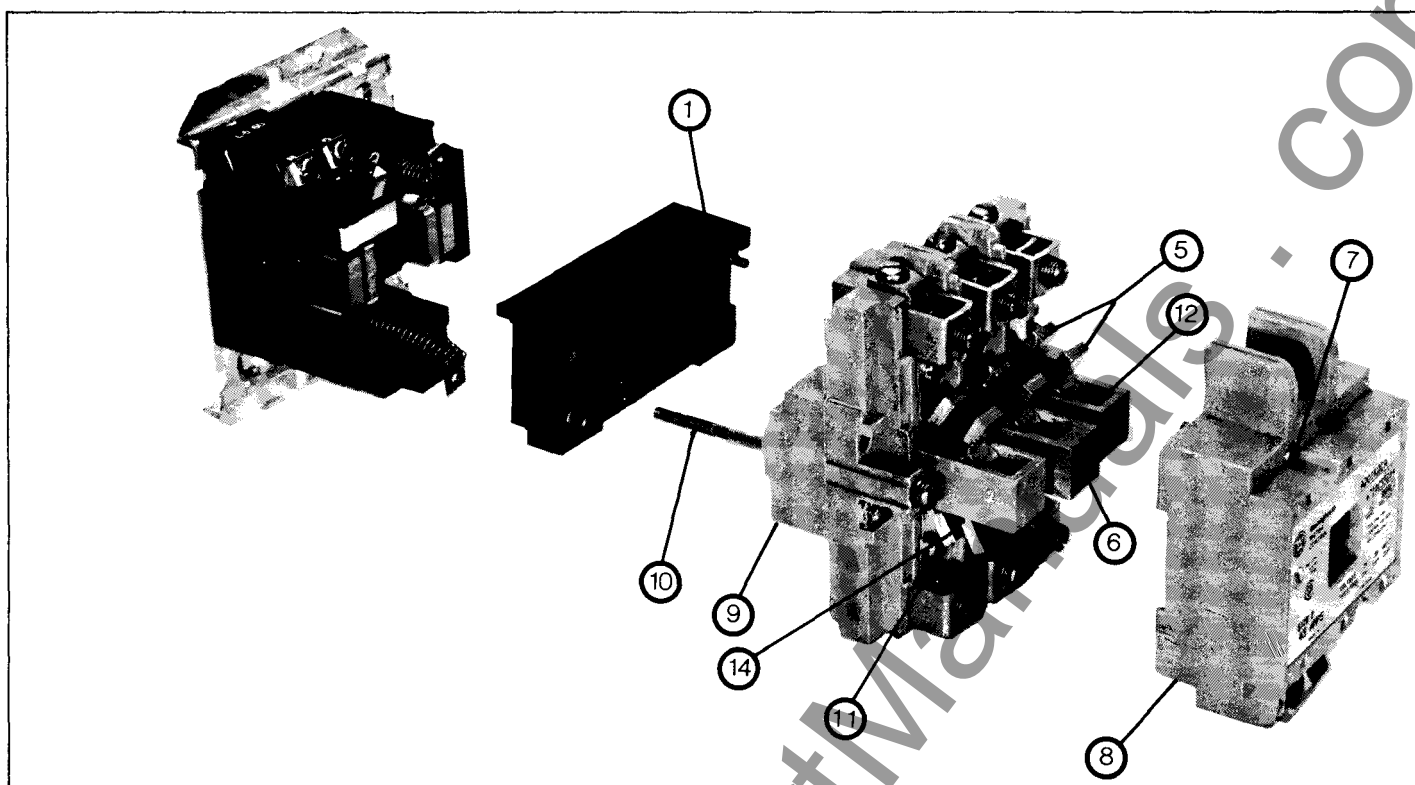

Fig. 8 Size 2 Contactor
Refer to Figure 8. Loosen the two arc box assembly screws (7) located immediately above and below the nameplate and remove the arc box (8). Contacts (5) are visible. Retighten the screws per Table V.
Refer to Figure 8. Loosen the assembly screws (10) located to the immediate left and right of the arc box. Remove connector straps to the overload relay. Pull the loosened upper base structure (9) forward. Pull the coil (1) from the upper base, plug in a new coil, replace the upper base structure and check the auxiliary contacts for secureness